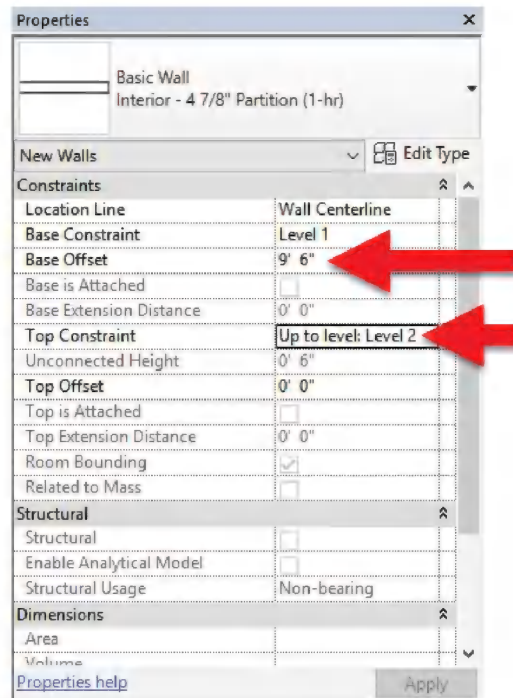

FIGURE 7-2.10 Bulkhead (wall) properties
31. Set the wall properties to **Interior - 4 7/8" Partition (1-hr)** and the **Base Offset** to **9'-6"**. (This will put the bottom of the wall to 9'-6" above the current floor level, Level 1 in this case.) (Figure 7-2.10)
32. Set the **Top Constraint** to **Up to level: Level 2** (Figure 7-2.10).